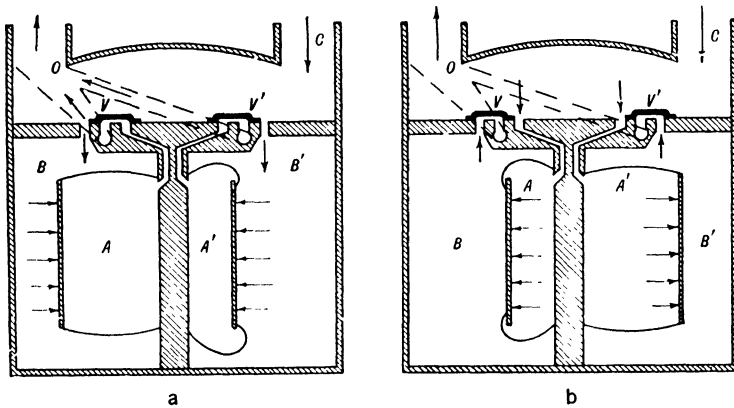

Fig. 7.5. Diagrammatic cross section of a gas meter.
41. The Gas Meter. A gas meter is a mechanical device which is operated by the pressure of the gas passing through it and which measures the number of cubic feet of gas passing through it. The meter receives the gas from the pressure regulator and delivers it to the pipes which distribute it to the burners. The meter contains four gas compartments with flexible walls. (See Fig. 7.5.) Gas enters at C , and flows into B and B' and expands these compartments. At the same time gas is expelled from A and A' into O , which connects to the pipe leading away from the meter. The motions of these walls operate levers which move the sliding valves V and V' to the positions shown in Figure 7.5b. Then A and A' fill and B and B' empty. In order to maintain a constant flow one pair of compartments